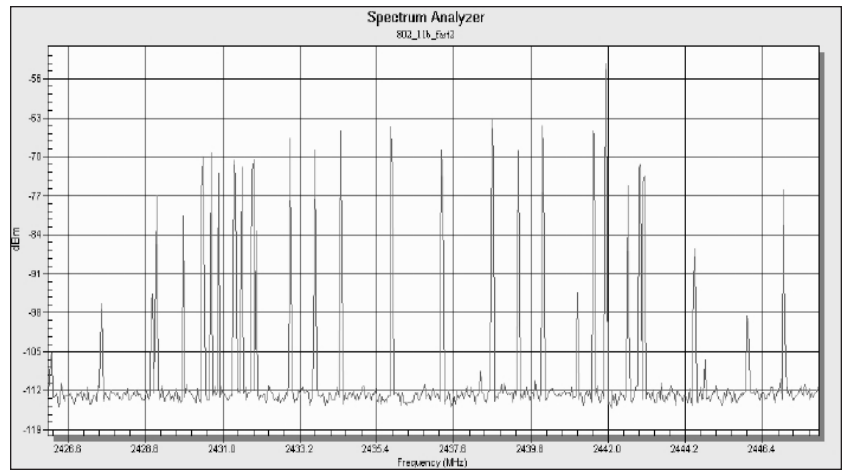
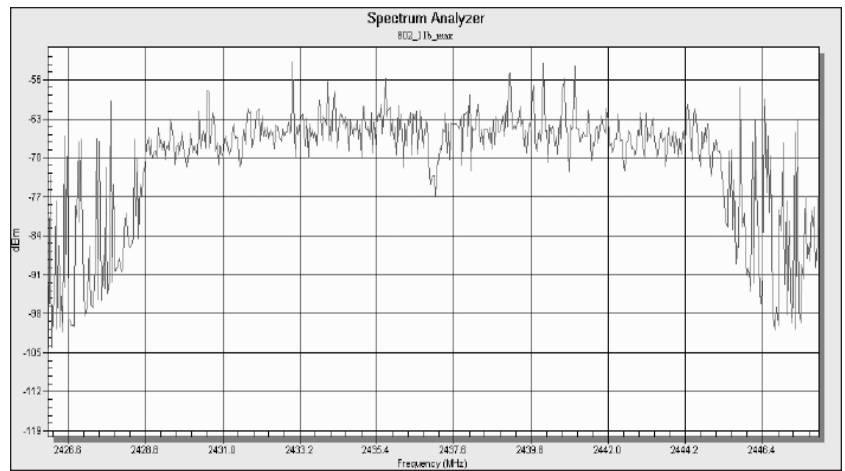

Figure 2. 802.11(g) spectrum, swept too fast
Figure 3. 802.11(g) spectrum with max hold
**Max Hold** – For a number of system signals, such as 802.11g, the signal transmission is intermittent due to frequency hopping or is only on the air intermittently, such as paging transmitters and land-mobile repeaters. Figure 2 shows an 802.11g signal measured with a single sweep. When you tune the spectrum analyzer to a channel full of such random signals, the spikes of signals come and go, rise and fall. This is a time to use the **Max Hold** soft key, which is accessed by pressing the **Shift-Trace** key sequence and setting the **Trace Mode** soft key to **Max**. The display then shows the highest signal measured over multiple sweeps at each frequency across the band. Wireless channel spectrums slowly fill in and show the time-lapsed activity on those frequencies, providing far more insight to the maximum signals present in that band. Figure 3 shows an 802.11(g) channel using max hold.